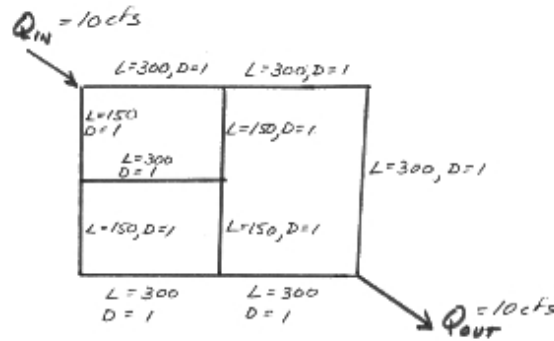

Figure 2. Pipe network for illustrative example with supply and demands identified. Pipe lengths (in feet) and diameters (in feet) are also depicted..
2. Code the script and determine the flow distribution in Figures 2 and 3. Assume Node N1 has a total head of 300 feet.